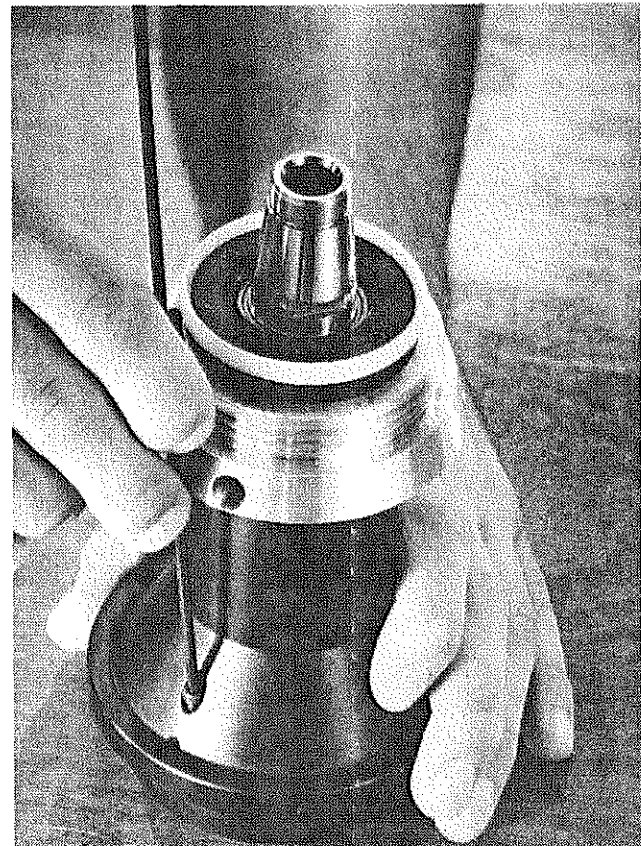

FIG. 30
14. Turn unit facing up and install four lubricated M3X20MM cap screws (Fig. 30). Tighten to 15-16 in. lbs.